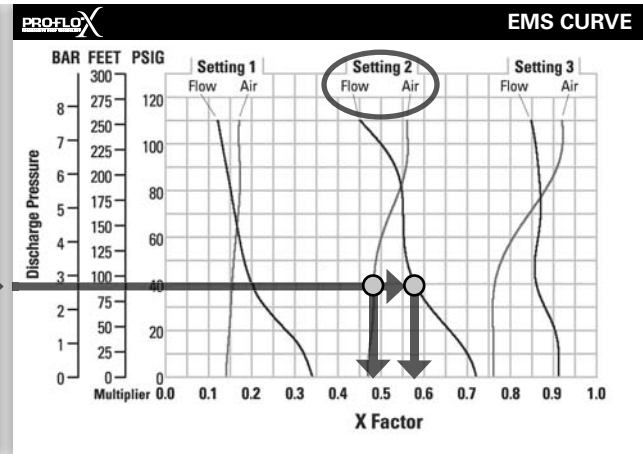

Figure 2
FIGURE 2 When the pressurized diaphragm, diaphragm A, reaches the limit of its discharge stroke, the air valve redirects pressurized air to the back side of diaphragm B. The pressurized air forces diaphragm B away from the center while pulling diaphragm A to the center. Diaphragm B is now on its discharge stroke. Diaphragm B forces the inlet valve ball onto its seat due to the hydraulic forces developed in the liquid chamber and manifold of the pump. These same hydraulic forces lift the discharge valve ball off its seat, forcing fluid to flow through the pump discharge. The movement of diaphragm A toward the center of the pump creates a vacuum within liquid chamber A. Atmospheric pressure forces fluid into the inlet manifold of the pump. The inlet valve ball is forced off its seat allowing the fluid being pumped to fill the liquid chamber.
Step 2: Determining flow and air X Factors. Locate your discharge pressure (40 psig) on the vertical axis of the EMS curve (Figure 2). Follow along the 2.8 bar (40 psig) horizontal line until intersecting both flow and air curves for your desired EMS setting (in this case, setting 2). Mark the points where the EMS curves intersect the horizontal discharge pressure line. After locating your EMS points on the EMS